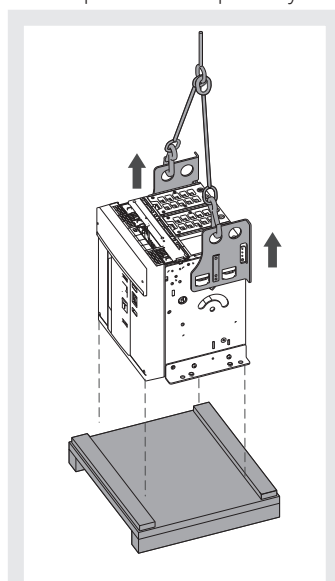
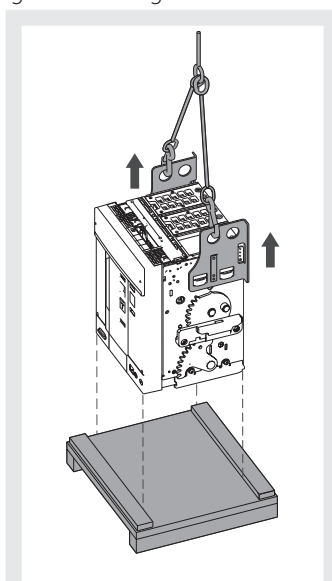

Figure 15
Figure 16
1. Raise the circuit-breaker from the base of the packaging with the aid of lifting plates, to be purchased separately. See Figure 15 and Figure 16.